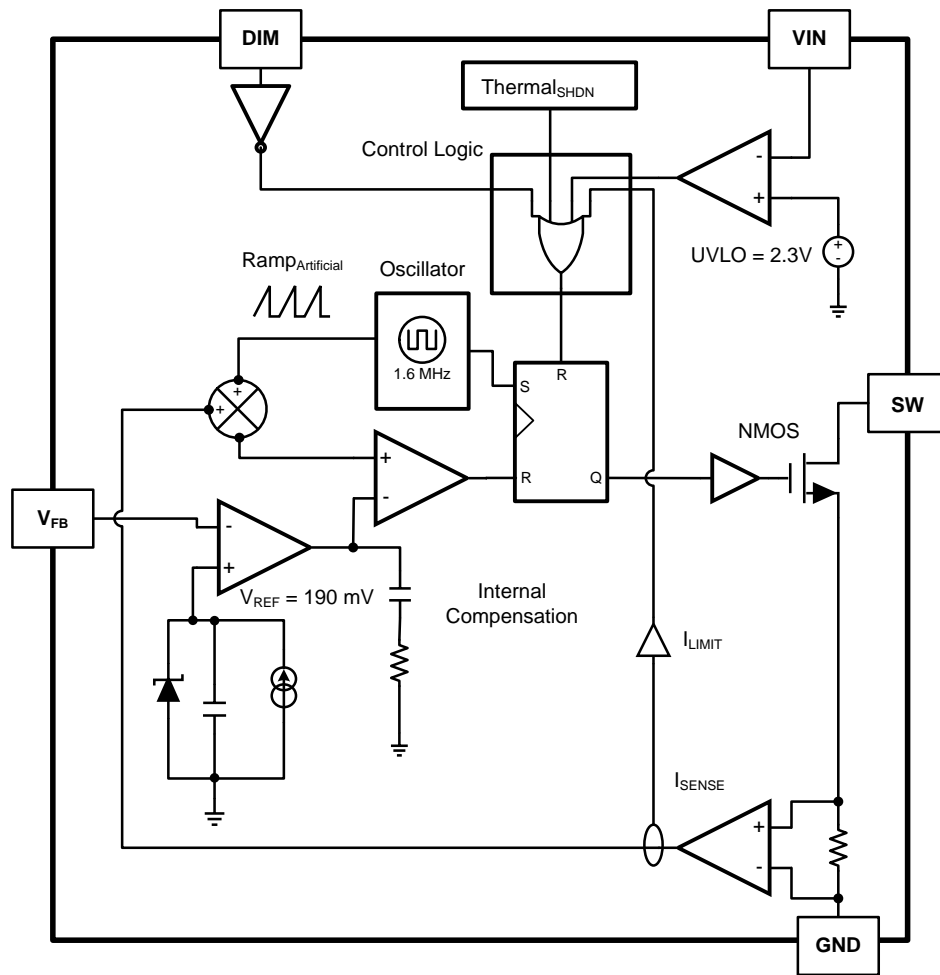
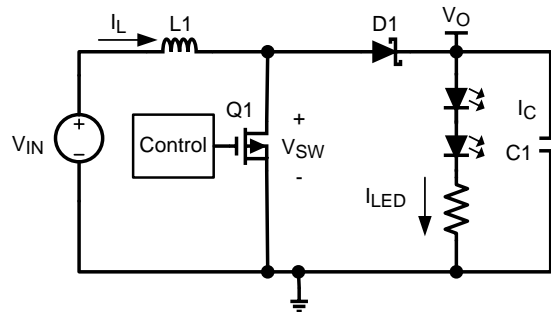

Figure 13. Simplified Block Diagram
Figure 14. Simplified Boost Topology Schematic
The LM3410 is a constant frequency PWM, boost regulator IC. It delivers a minimum of 2.1A peak switch current. The device operates very similar to a voltage regulated boost converter except that it regulates the output current through LEDs. The current magnitude is set with a series resistor. This series resistor multiplied by the LED current creates the feedback voltage (190 mV) which the converter regulates to. The regulator has a preset switching frequency of either 525 kHz or 1.60 MHz. This high frequency allows the LM3410 to operate with small surface mount capacitors and inductors, resulting in a DC/DC converter that requires a minimum amount of board space. The LM3410 is internally compensated, so it is simple to use, and requires few external components. The LM3410 uses current-mode control to regulate the LED current. The following operating description of the LM3410 will refer to the Simplified Block Diagram (Figure 13) the simplified schematic (Figure 14), and its associated waveforms (Figure 15). The LM3410 supplies a regulated LED current by switching the internal NMOS control switch at constant frequency and variable duty cycle. A switching cycle begins at the falling edge of the reset pulse generated by the internal oscillator. When this pulse goes low, the output control logic turns on the internal NMOS control switch. During this on-time, the SW pin voltage ( $V_{SW}$ ) decreases to approximately GND, and the inductor current ( $I_L$ ) increases with a linear slope.  $I_L$  is measured by the current sense amplifier, which generates an output proportional to the switch current. The sensed signal is summed with the regulator's corrective ramp and compared to the error amplifier's output, which is proportional to the difference between the feedback voltage and  $V_{REF}$ . When the PWM comparator output goes high, the output switch turns off until the next switching cycle begins. During the switch off-time, inductor current discharges through diode D1, which forces the SW pin to swing to the output voltage plus the forward voltage ( $V_D$ ) of the diode. The regulator loop adjusts the duty cycle (D) to maintain a regulated LED current.